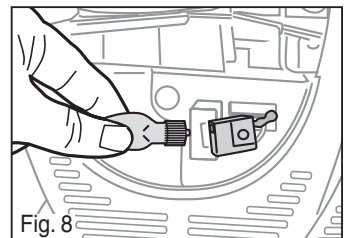

Fig. 8
- 3) Push in new bulb, replace lens cover and screw. (Fig. 8).